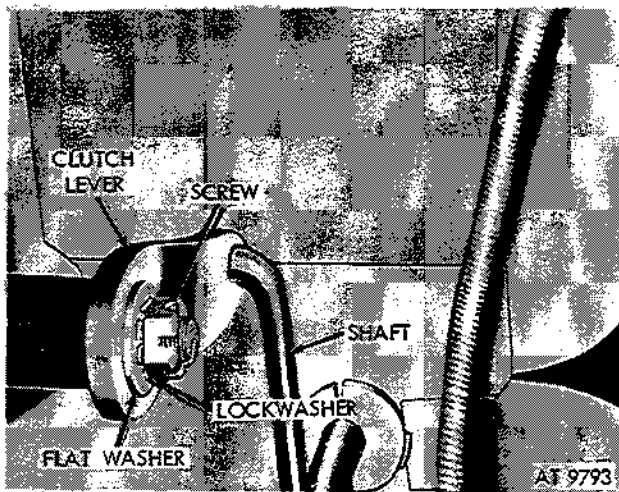

Figure 2-374. Remove clutch lever from clutch lever shaft.
(3) Remove nut and flat washer and lockwasher securing clutch lever to clutch lever pedal shaft (fig. 2-374).